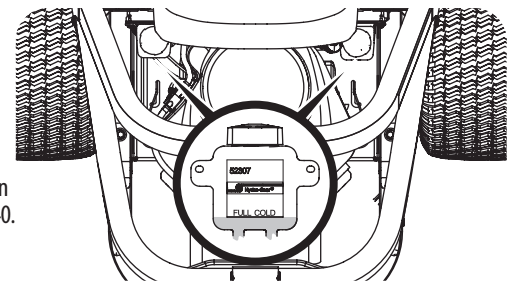

Figure 40
1. Clean the reservoir cap and the area around the cap to prevent debris from contaminating the transmission oil. See Figure 40.
2. Turn the reservoir cap counter-clockwise to remove, then check the oil level in the reservoir. Oil should be visible at the bottom of the cup, but the oil level must NOT be above the "FULL COLD" line. See Figure 40. DO NOT FILL THE RESERVOIR.
1. Remove the cap from the transmission oil expansion reservoir. See Figure 40.